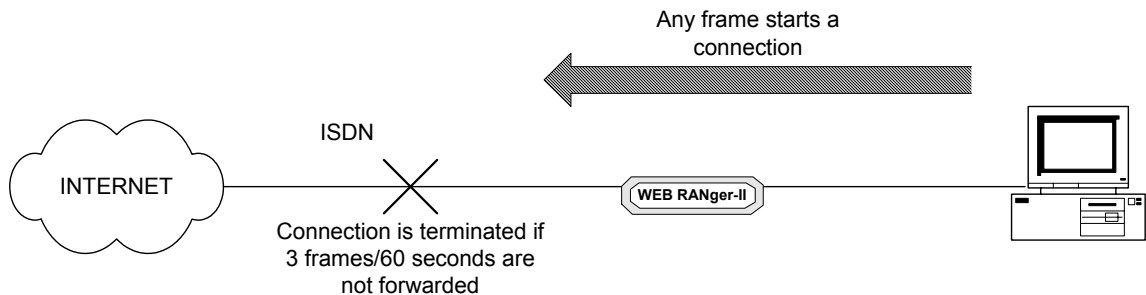

Figure 4-89. Any Frame Starts a Connection
- Terminate Connection is *no frame to forward* for 60 seconds (see Figure 4-89).